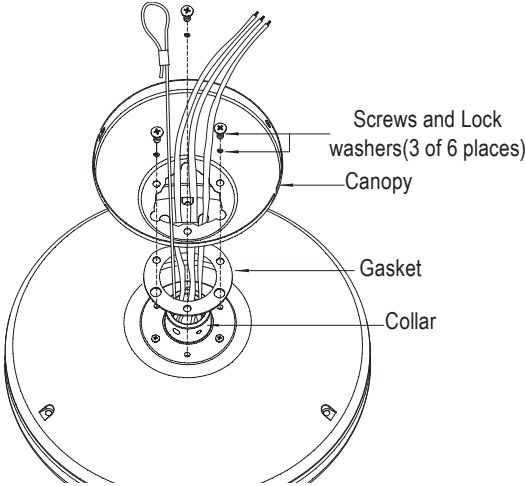

Fig. 8
Step 3. Remove three of the six screws and lock washers (every other one) from the collar of top motor. (Fig. 8)
Step 4. Place the ceiling canopy with decotation ring and the gasket over the collar at the top of the motor. Align the mounting holes with the holes in the motor and fasten using the screws and lock washers provided. (Fig. 8)